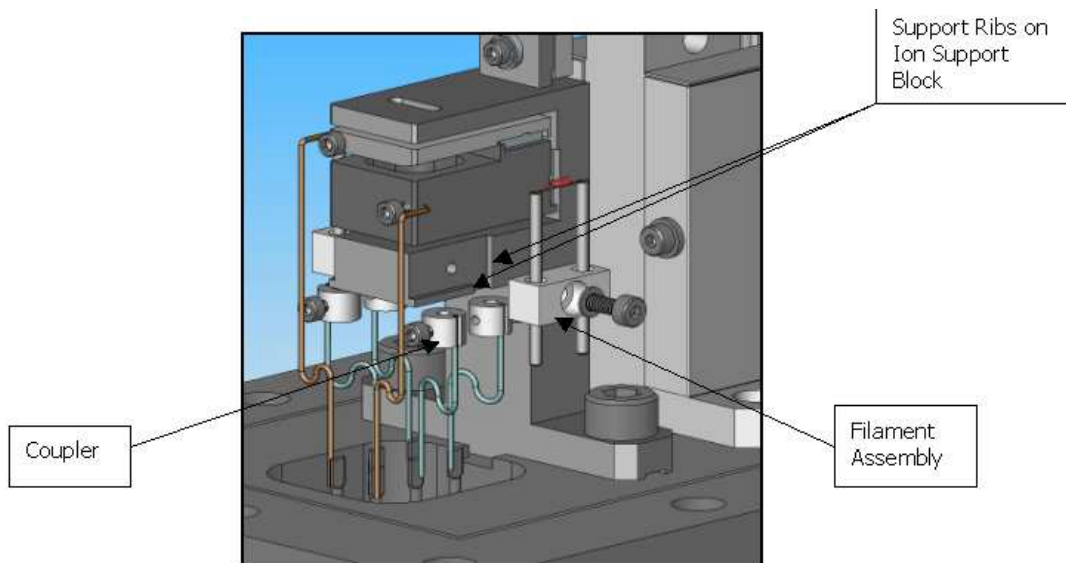
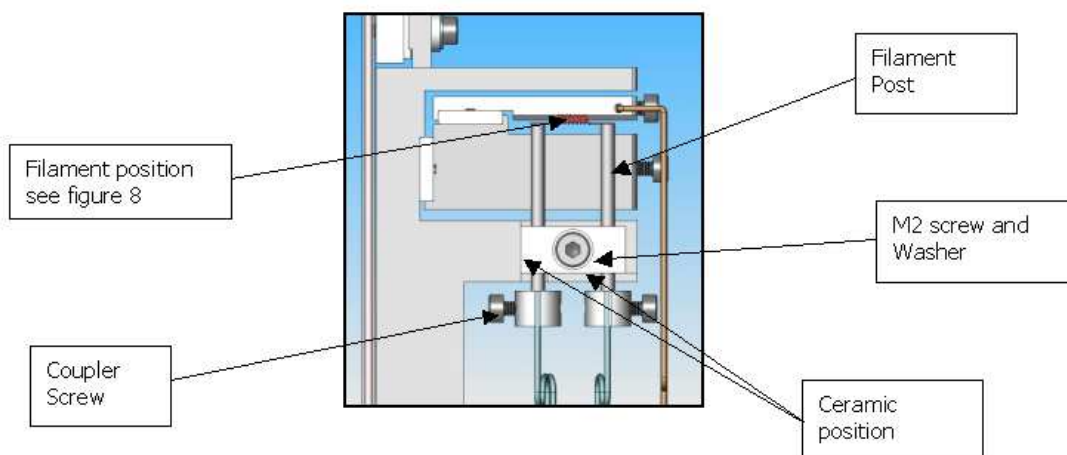
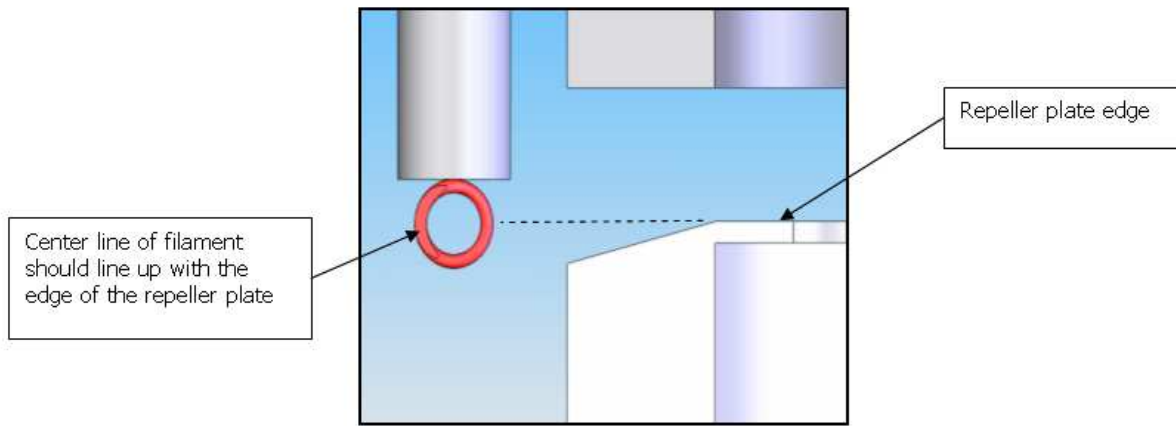

Figure 6: Coupler and Filament Assembly
Figure 7: Filament Position
Figure 8: Filament Alignment
14. Guide the ceramic against the bottom and side ribs of the ion source support block (Figure 6: Coupler and Filament Assembly and Figure 7: Filament Position). Correct positioning of filament is critical for proper spectrometer operation.
15. While holding the filament in position, insert the M2 screw and washer and tighten (Figure 7: Filament Position).
16. Tighten the coupler screws onto the filament posts (Figure 7: Filament Position).
17. Verify ceramic is tight against the bottom and right side ribs. Ensure that the filament is positioned in the slot of the ion source as shown (Figure 7: Filament Position and Figure 8: Filament Alignment).